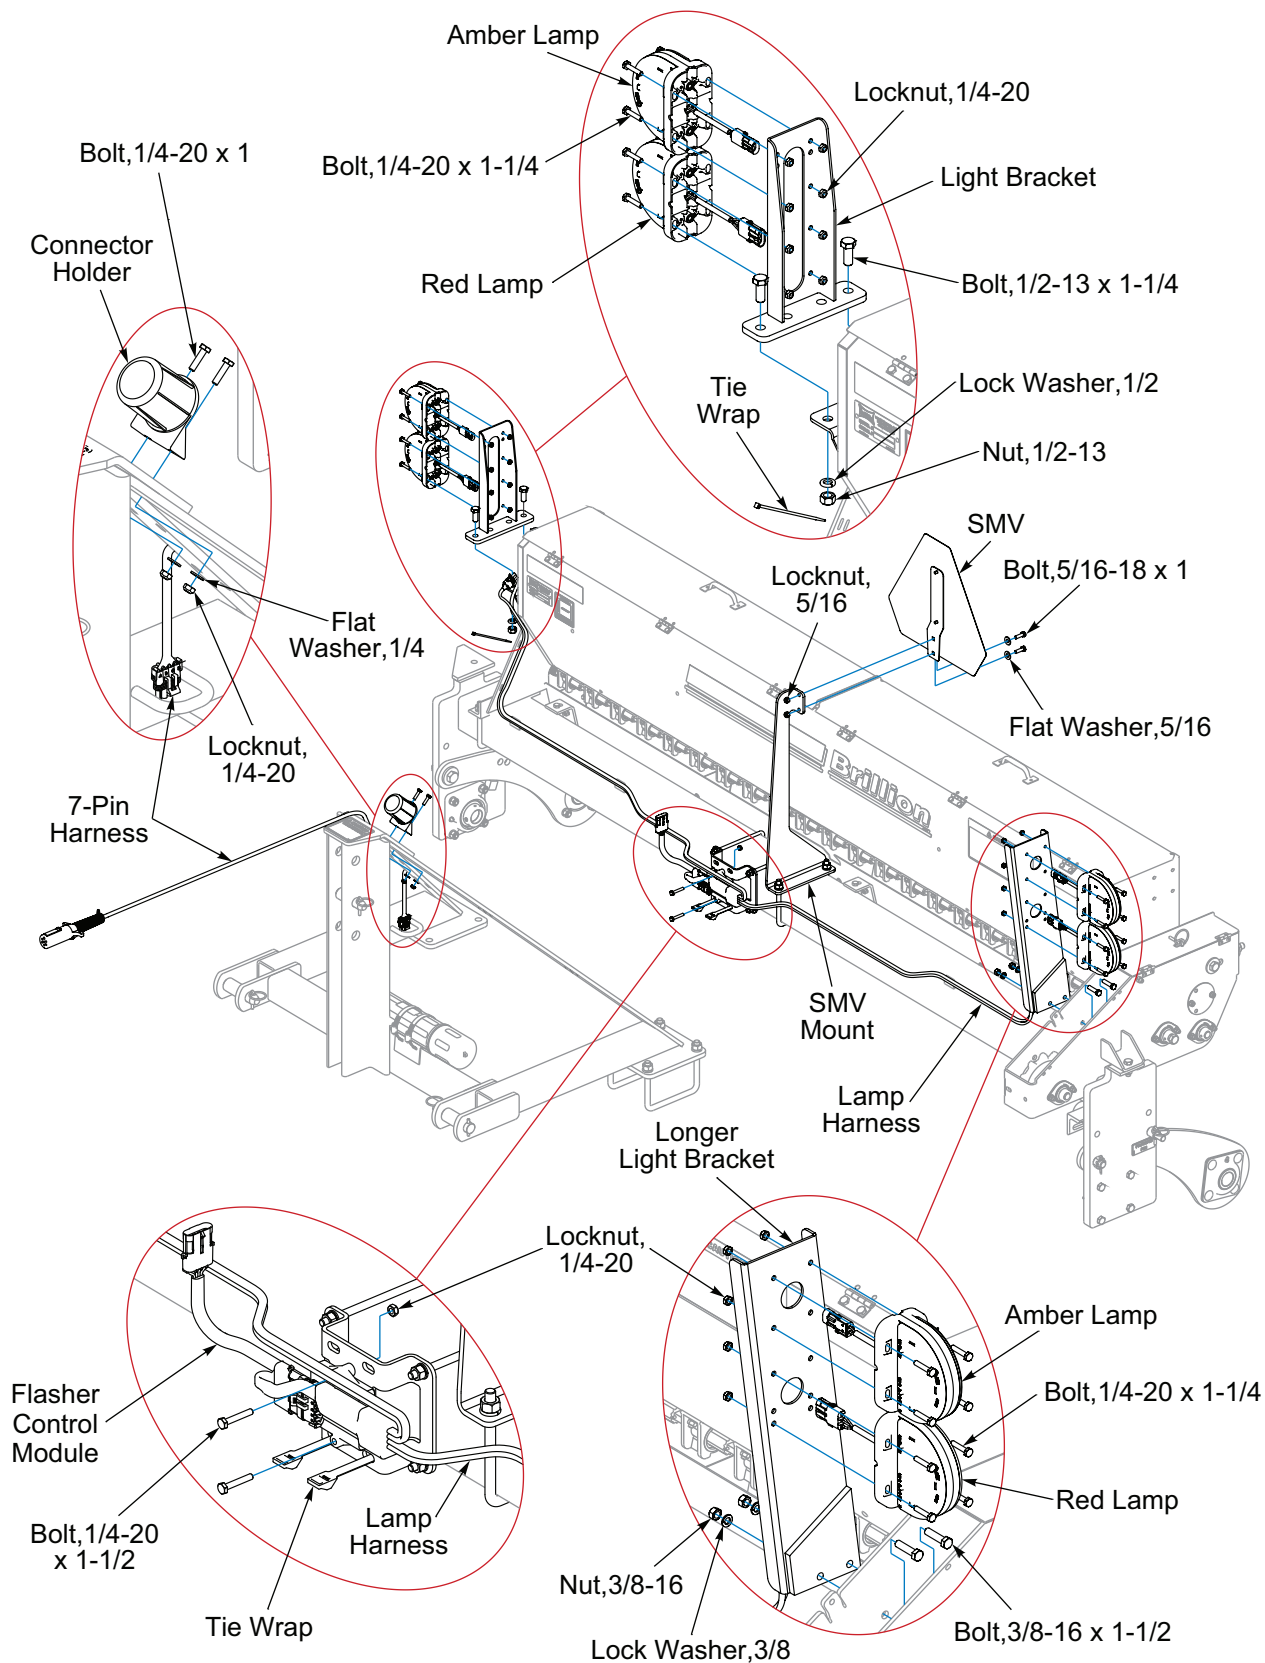

Figure 2-24: Warning Lamps Installation, 8FT and 10FT (Before 08/2025)
1. Attach an Amber Lamp to the upper portion of each Light Bracket with 1/4-20 x 1-1/4 Bolts and Locknuts. **See Figure 2-24.**
3. Attach a Red Lamp below the Amber Lamp with 1/4-20 x 1-1/4 Bolts and Locknuts. Ensure Red Lamp lenses faces rearward. **See Figure 2-24.**